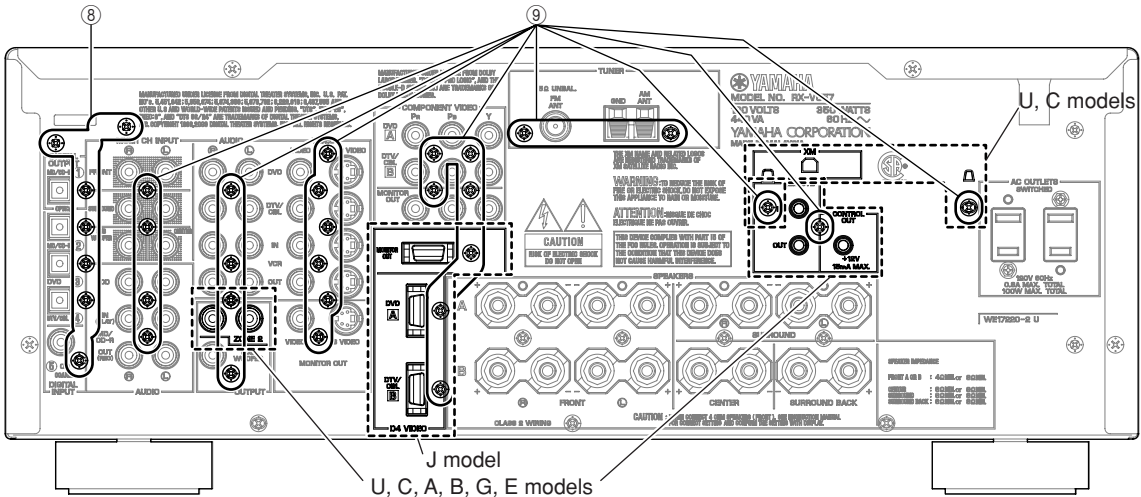

Fig. 3
- b. Remove 7 screws (⑧). (Fig. 3)
- b. ⑧のネジ7本を外します。(Fig. 3)
- b. Remove 23 (U, C models) / 21 (A, B, G, E models) / 19 (R, T, K, L models) screws (⑨). (Fig. 3)
- b. ⑨のネジ22本を外します。(Fig. 3)